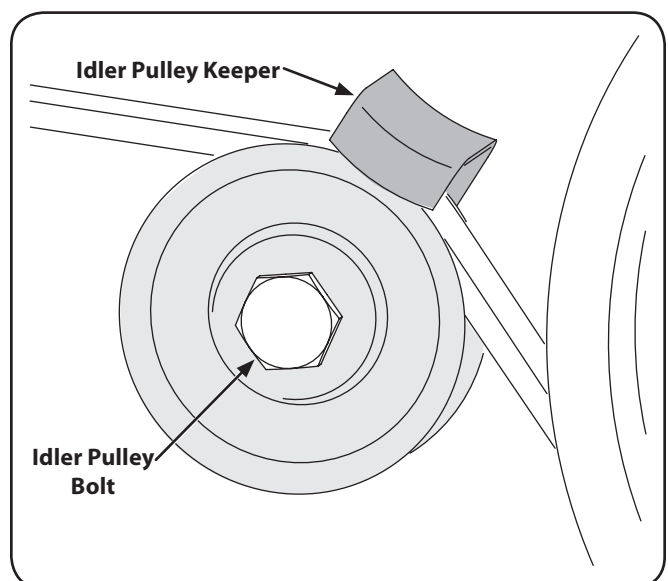

Figure 7-4
3. Remove the idler pulley bolt and move the belt from under the idler pulley keeper. See Figure 7-4.
NOTE: Upon reassembly, make certain that the idler pulley keeper is as shown in Figure 7-4. Take note of the notch on the bottom of the keeper and the alignment when reassembling with the replacement belt.